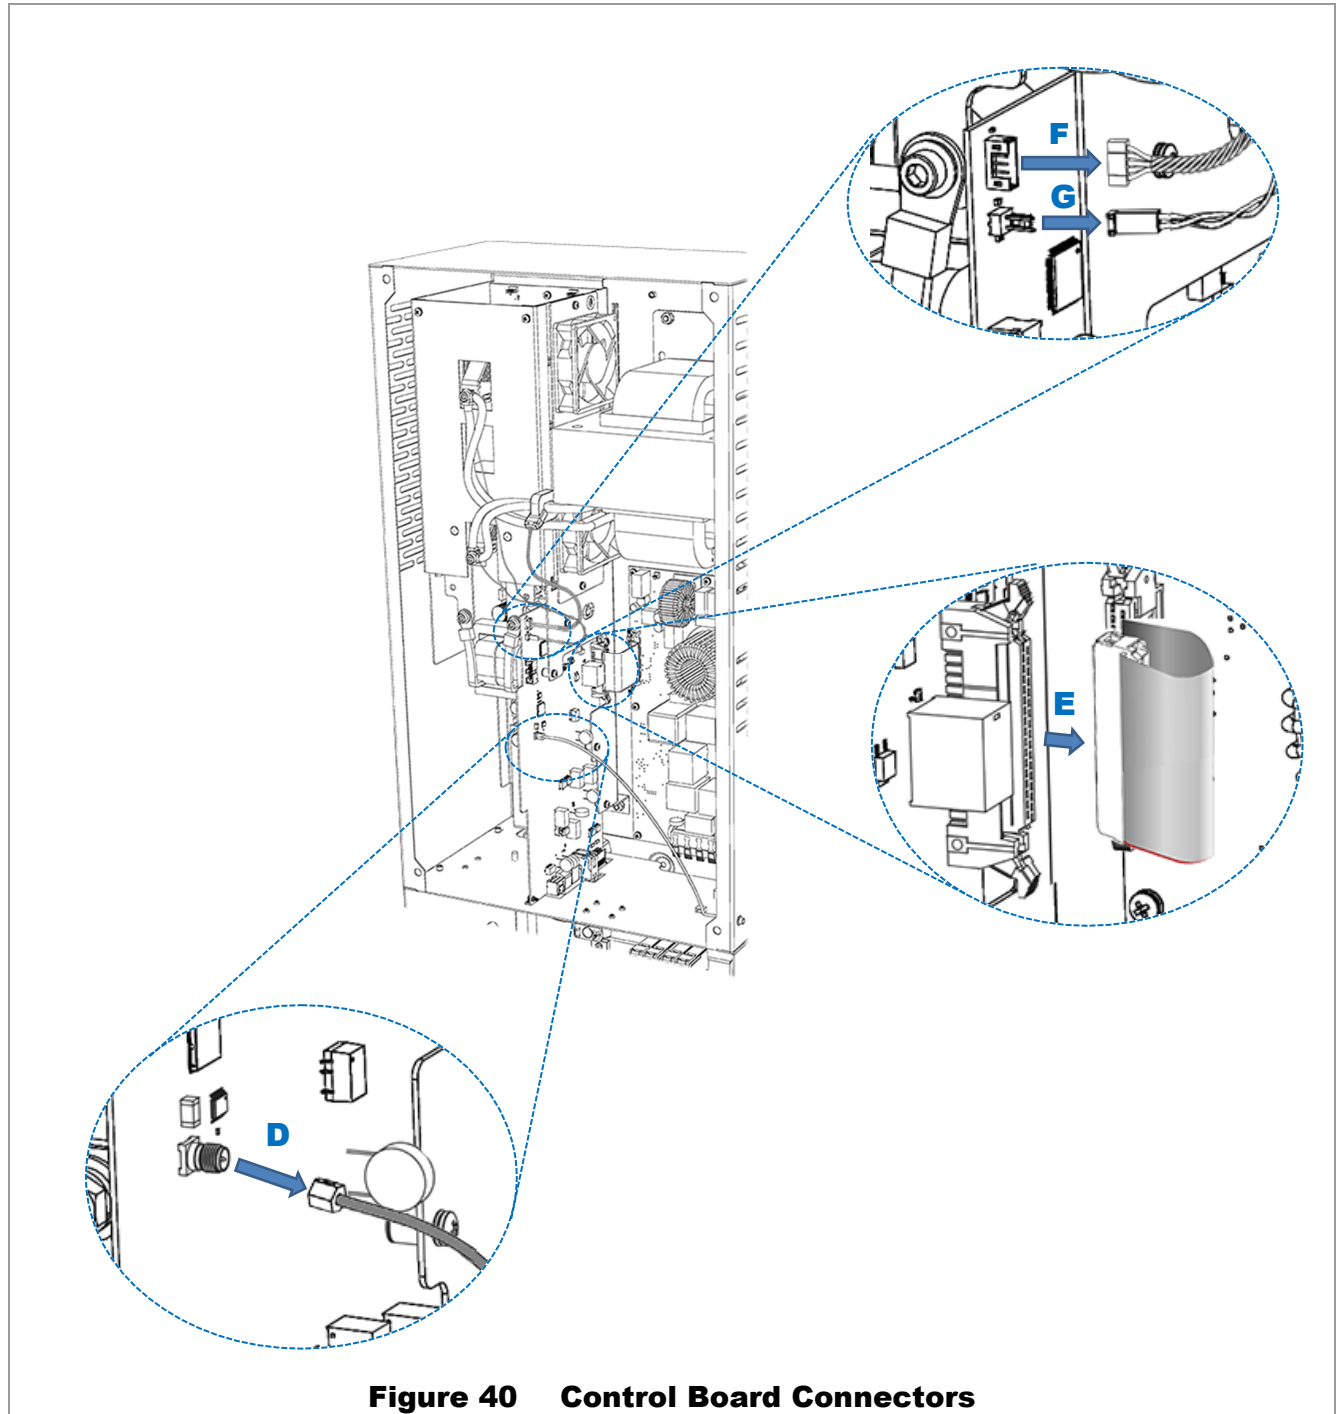

Figure 40 Control Board Connectors
3. On the control board, remove the following connectors (see Figure 40):
- Replace the connectors **G** and **F**. See Figure 40 if necessary.
- Replace the ribbon cable **E** and the RP-SMA cable **D**. See Figure 40 if necessary.